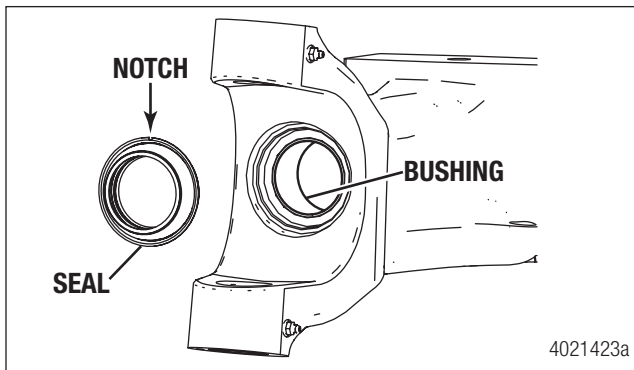

Figure 8.1
2. If required, install a new oil seal into the axle housing. The seal must be installed with the notch at the top. Figure 8.1. Use a correct size sleeve or driver. Refer to Section 13 Special Tools on page 81 for a tool drawing.